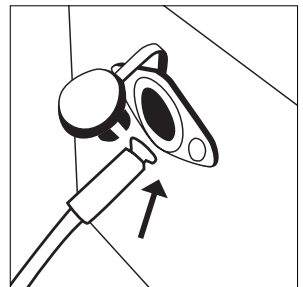

Figure 4
4. Remove the Battery Compartment cover by pushing in and sliding down (Figure 4).
4. Insert security cable into the hole and release button. (Figure 4).